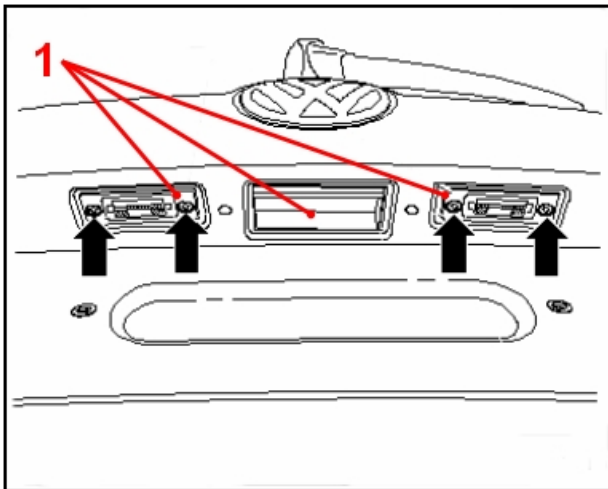

Figure 4: License plate light / handle assembly
- Take off all trim pieces as well as the license plate light / handle assembly (Figure 4, number 1) necessary to remove the corrosion from the rear lid. See Repair Group 70 and Repair Group 55 in Elsa.